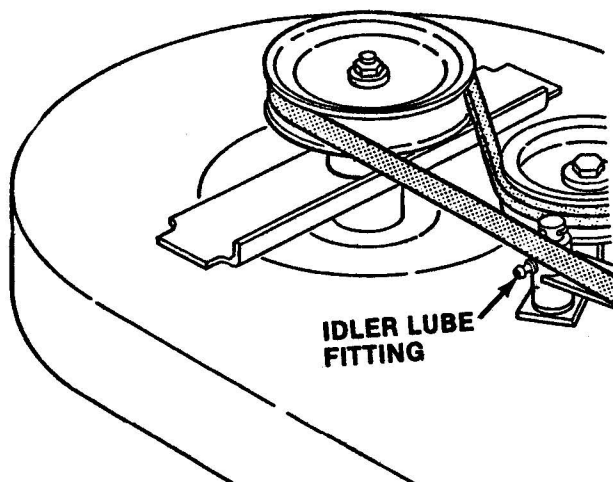

FIG. 10 - 41" MOWER LUBE POINT
- **IDLER(41" MOWER):** Lubricate bearing thru fitting on idler arm pivot (FIG. 10).